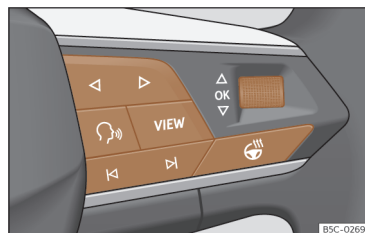

Fig. 9 Right side of multifunction steering wheel: buttons to the menus and informative indications on the instrument panel (depending on the version).
As long as a priority 1 >>> page 24 warning is active, it will not be possible to access any menu. Some warnings can be confirmed and hidden with the **OK** button of the multifunction steering wheel >>> **Fig. 9**.
- If a message or vehicle symbol is displayed, press the **OK** button >>> **Fig. 9**; several times if necessary.